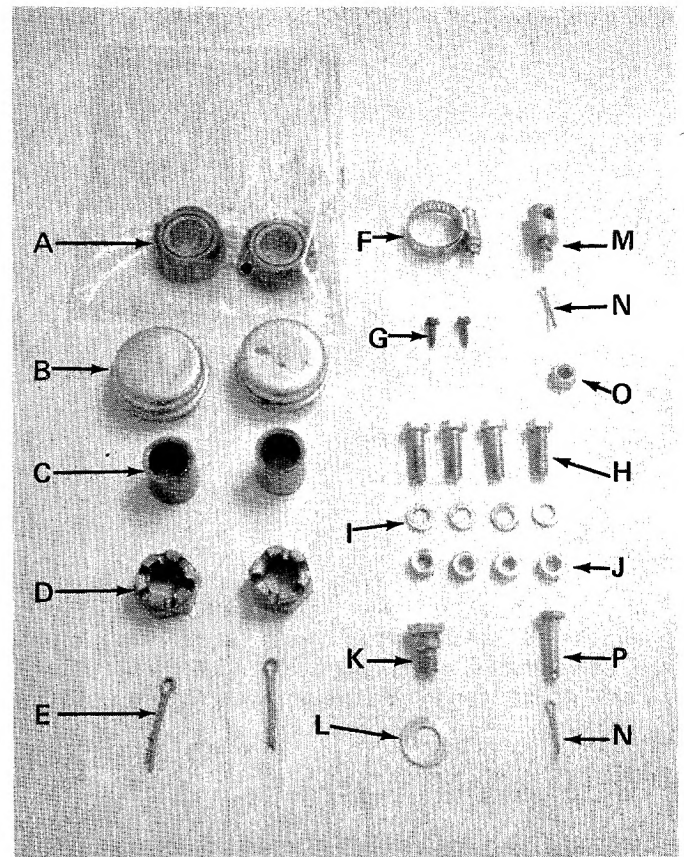

FIGURE 1
1. Remove the engine (with frame), two wheels, engagement rod, engagement handle, hose and hardware pack. See figures 1 & 2.
See figure 1.